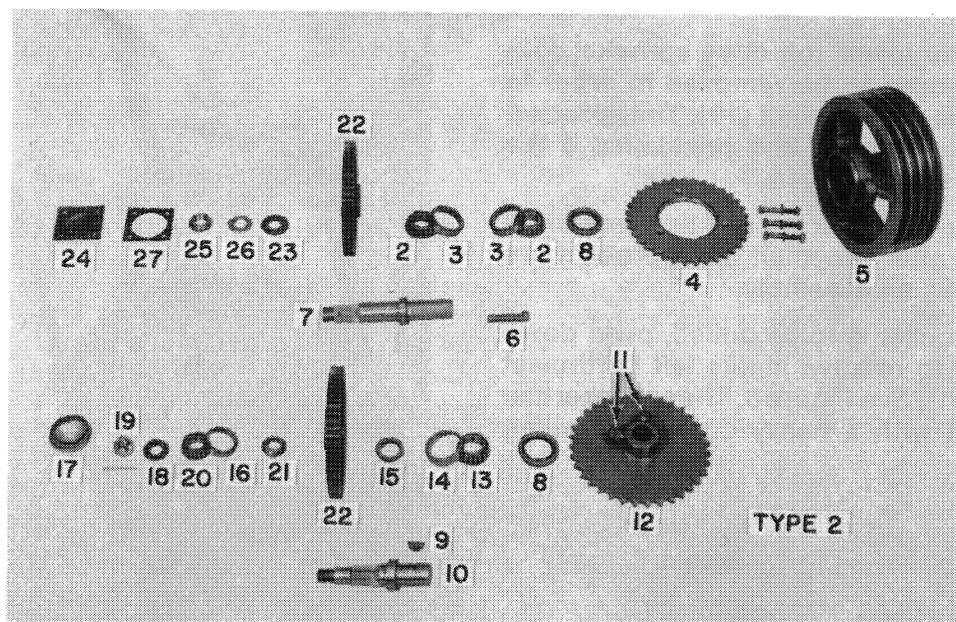

FIGURE 11
8. Figure 11 shows the parts of the gearbox except the housing, cover, and bolts.